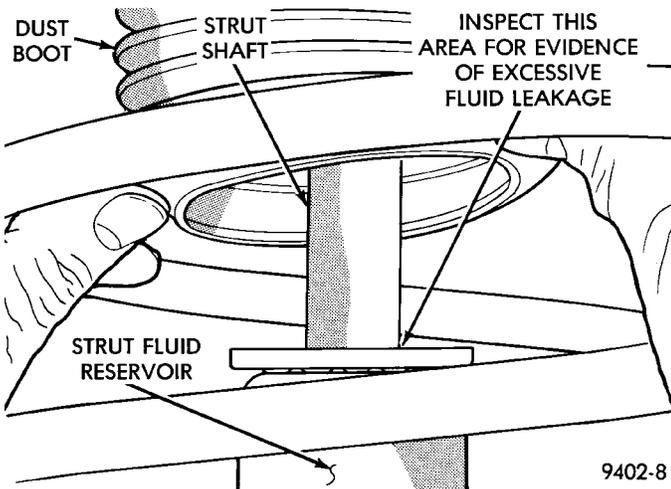

Fig. 3 Strut Assembly Leakage Inspection
(4) Lift dust boot and inspect strut assembly for evidence of fluid running from the upper end of fluid reservoir. (Actual leakage will be a stream of fluid running down the side and dripping off lower end of unit). A slight amount of seepage between the strut rod and strut shaft seal is not unusual and does not affect performance of the strut assembly (Fig. 3). Also inspect jounce bumpers for signs of damage or deterioration.